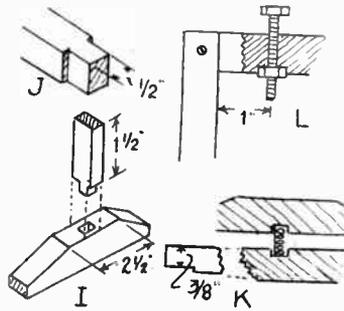

Fig. 2
Before replacing the top crossbar, bore a hole $1\frac{1}{2}$ ins. from each end, for the adjusting screws to enter. These are a pair of $\frac{1}{2}$ in. by 2 in. or 3 in. steel bolts, with hexagon heads and nuts. In the underside, chisel out recesses for the nuts to enter about halfway, as at (L) Fig. 2. Now replace the bar, and turn the bolts until they press, not too heavily, on the rollers. A good idea is to bore a shallow recess in the top bar, at each of the places the bolts bear upon, to prevent any side shifting of the bar.